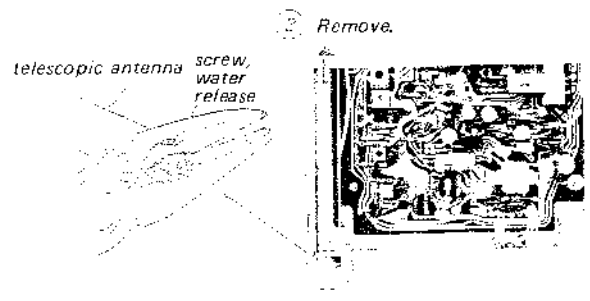

Fig. 2-5.
- ① Remove case as outlined in 2-1 above.
- ② Remove water release screw from the bottom of the telescopic antenna as shown in Fig. 2-5 below.
- ③ Remove telescopic antenna upwards through telescopic antenna sleeve.